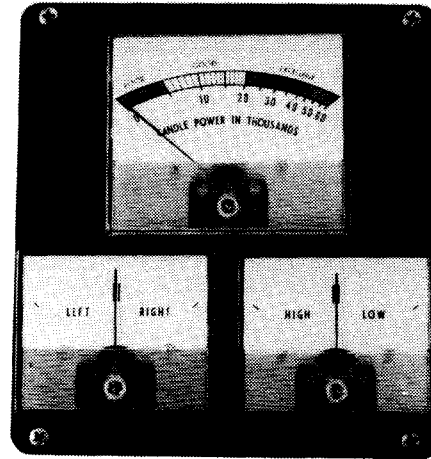

FIG. 2
The features which give this particular model Headlight Tester its speed and accuracy are the three highly sensitive meters and four balanced photoelectric cells made up into a self contained and calibrated unit as illustrated in Fig. 2. Two of the three meters are the aiming meters marked Left-Right and High-Low and the other is the candlepower meter reading in thousands of candlepower, all of which indicate simultaneously the condition of the headlight by means of the attached four calibrated photoelectric cells in the following manner.
3. Class II headlamps are to have their aim checked, or are to be aimed by their low beams only. These include the dual filament 5¾" diameter, Type 2 lamps Nos. 4002 and 4005 and also the dual filament 7" diameter Type 2 lamps Nos. 6006, 6012 and 6013. All of the headlamps in this class have a figure 2 molded in the lens near the top.